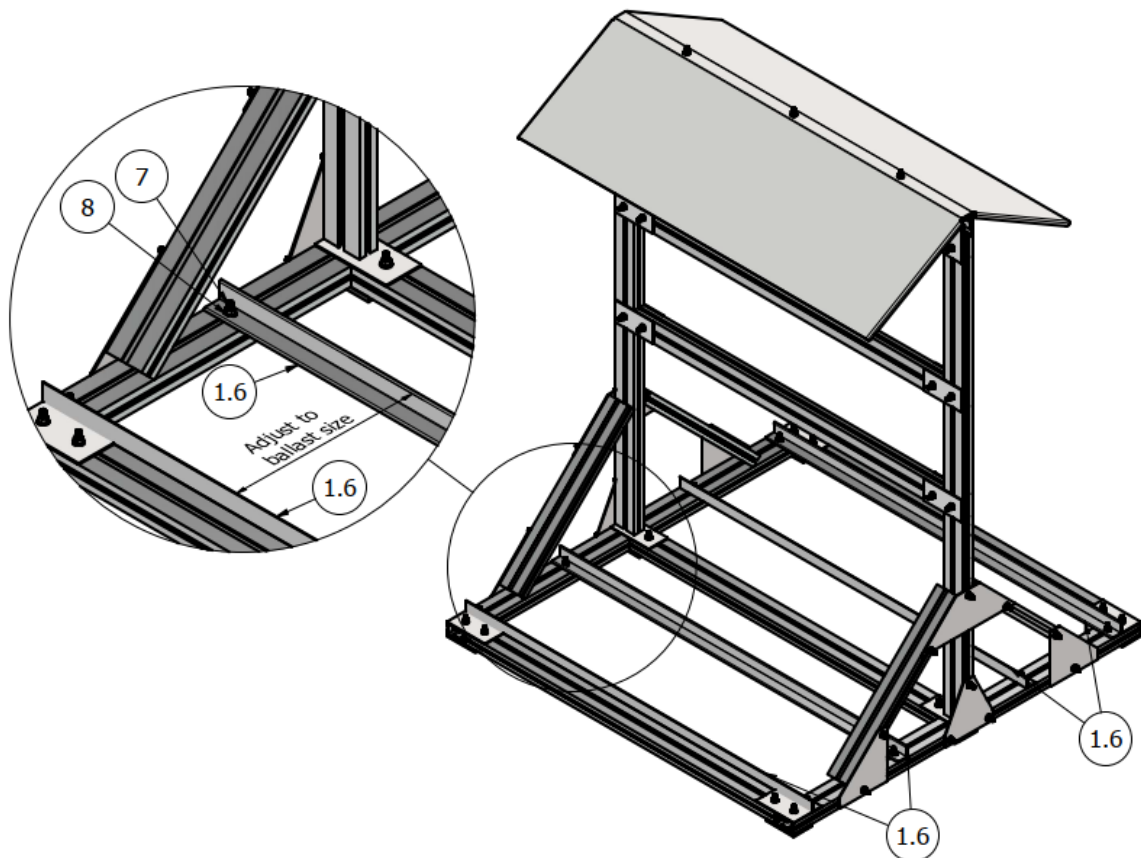

FIG. 11 Installation of the ballast angles
12. Fit angle brackets under the ballast **1.6** as shown in Fig. 11.